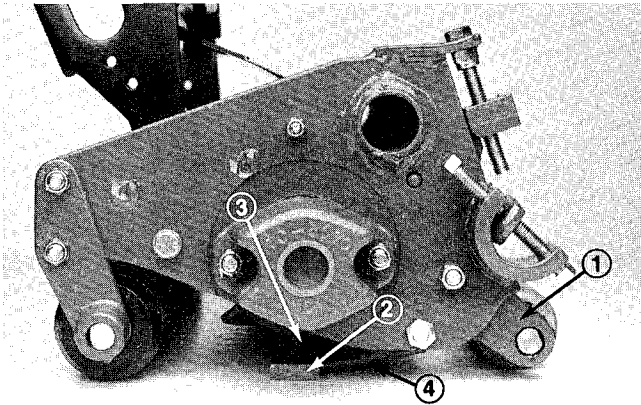

Figure 6
2. Place a 1/4 inch or thicker plate under the reel blades and against the cutting edge of the bedknife (Fig. 6). Rear roller should not contact surface.
3. Level front roller to reel by loosening (4) capscrews holding front roller brackets and rotating front roller until it contacts surface that plate is on. Tighten capscrews and make sure roller has not changed position. To prevent moving the roller bracket when tightening, hold nut and tighten capscrew.